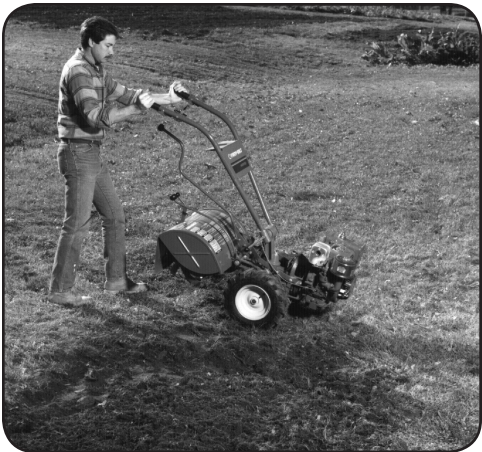

Figure 4-5
- 1. find the balance point between the engine and the tines by lifting up the handlebars. See Figure 4-5.
- 5. Resume forward operation, and lift the handlebars until the tines are off the ground. Refer to Figure 4-5. Find the balance point between the engine and the tines. Then push the handlebars in the direction of the turn. Be very careful to keep feet and legs away from the tines, which should be disengaged. Let the powered wheels do the hard work.